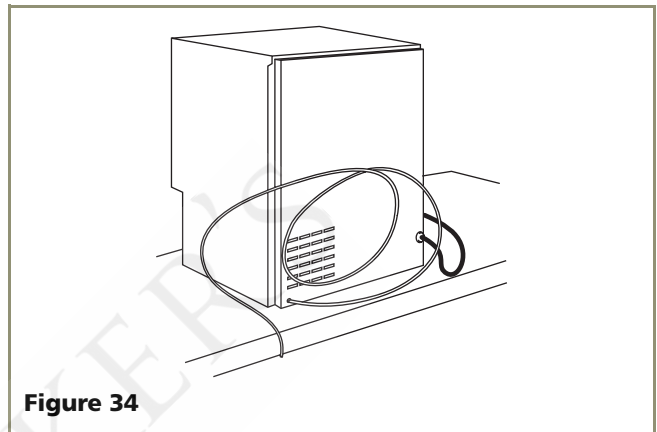

Figure 34
- Connect sufficient tubing to the unit so that tubing may be looped, allowing the unit to be removed for cleaning and servicing (see **Figure 34**). However, make certain that the tubing is not pinched or damaged during installation.
3. Carefully bend the water supply line into position and connect the line to the solenoid valve (see **Figure 34**). Avoid kinking the water supply line.
4. For recessed installations, allow extra water supply line length to provide slack for easy removal from the recessed area (see **Figure 34**). This will also safeguard against kinking the line.